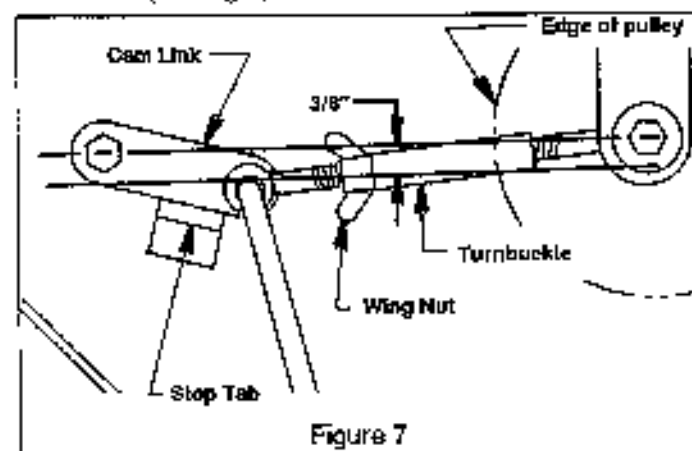
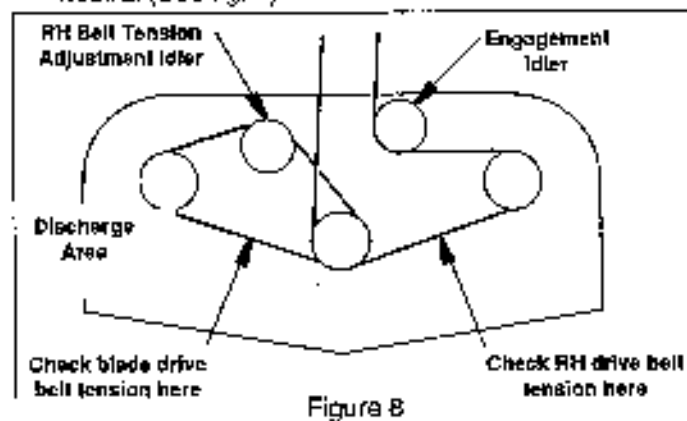

Figure 7
Figure 8
1. Engage blade clutch lever and check for proper over center clearance. There should be about $3/8"$ between rod and straight edge (See fig. 7). Bend the stop tab to adjust clearance.
2. Adjust belt tension so that the belt moves $1/2"$ with 10 lbs. of pressure. Check the pressure between the center and left spindle pulleys where applicable (See fig. 8). Second belt driving right spindle should be checked the same way. Adjustment is made by loosening the wing nut and tightening/loosening the turnbuckle (See fig. 7).